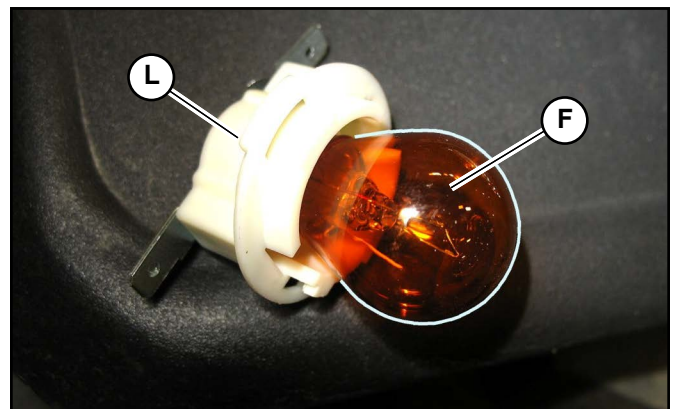

Fig. 248 – Indicator/Hazard Bulb
2. Push and twist bulb (F, Fig. 248) to remove the bulb from socket (L). Discard the spent bulb.